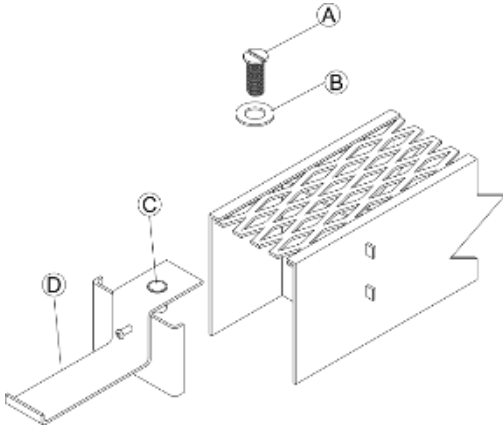

Figure 8
(Figure 8) To assemble, put metal tab (C) under the end of the Duraslot pipe grate so that grate anchor (D) extends into the area where concrete will be poured. Screw pan head screw (A) and washer (B) through hole (C) to secure to the grate.